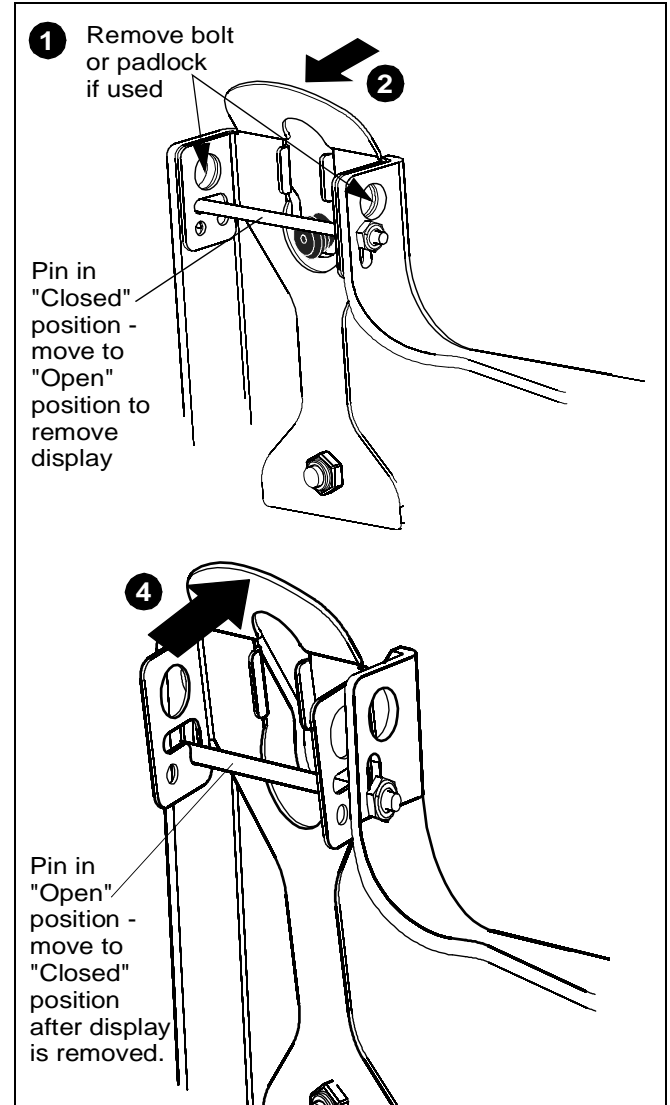

Figure 16
2. Pull back on flag on upper mounting hole and press pin down into "Open" position. (See Figure 16)